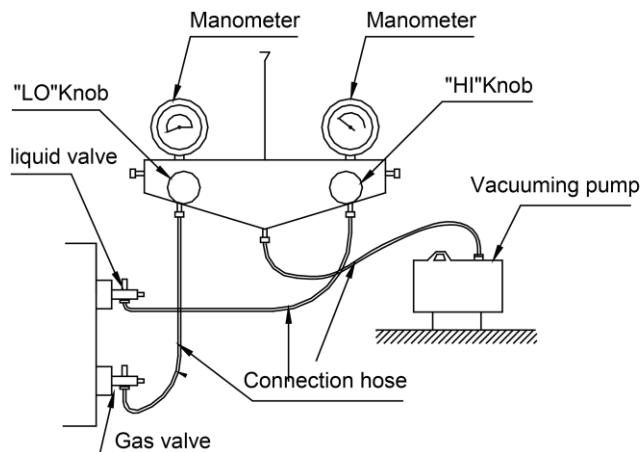

Fig.41
- (1) Confirm outdoor liquid and gas valves are closed. Air purging from the nozzle located on liquid and gas valves by vacuum pump. See Fig.41.
Every unit should have corresponding short-circuit and overload protection. And also a main switch is required to control power supply or disconnection. See Fig.41.